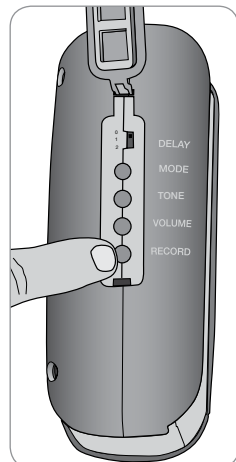

Fig. 15
4. Press and hold the RECORD button on left side of alarm (Fig. 15).